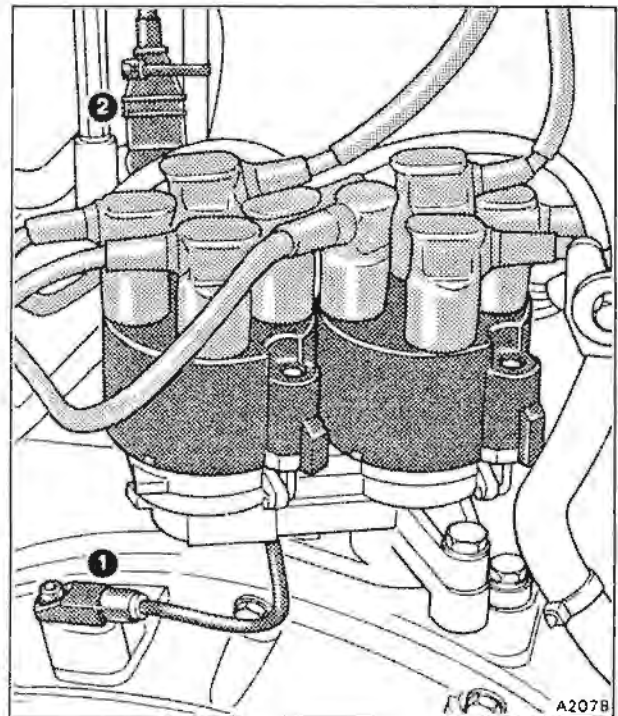

Fig. E5-1 Crankshaft sensor, plug, and socket
**Crankshaft sensor** (see fig. E5-1) The sensor monitors engine speed and crankshaft position by obtaining a signal from the timing wheel mounted on the end of the crankshaft.
**Ignition distributor** (see fig. E5-1)